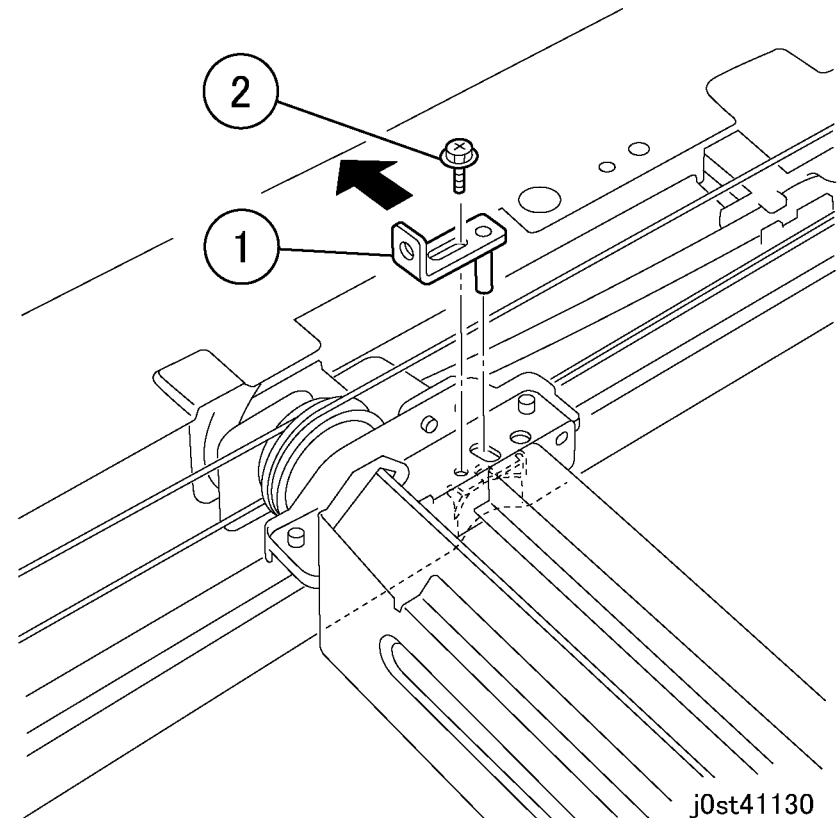

Figure 3 Position Adjustment of Half Rate Carriage 2/3
6. Fix the tool to the Half Rate Carriage. (Figure 3)